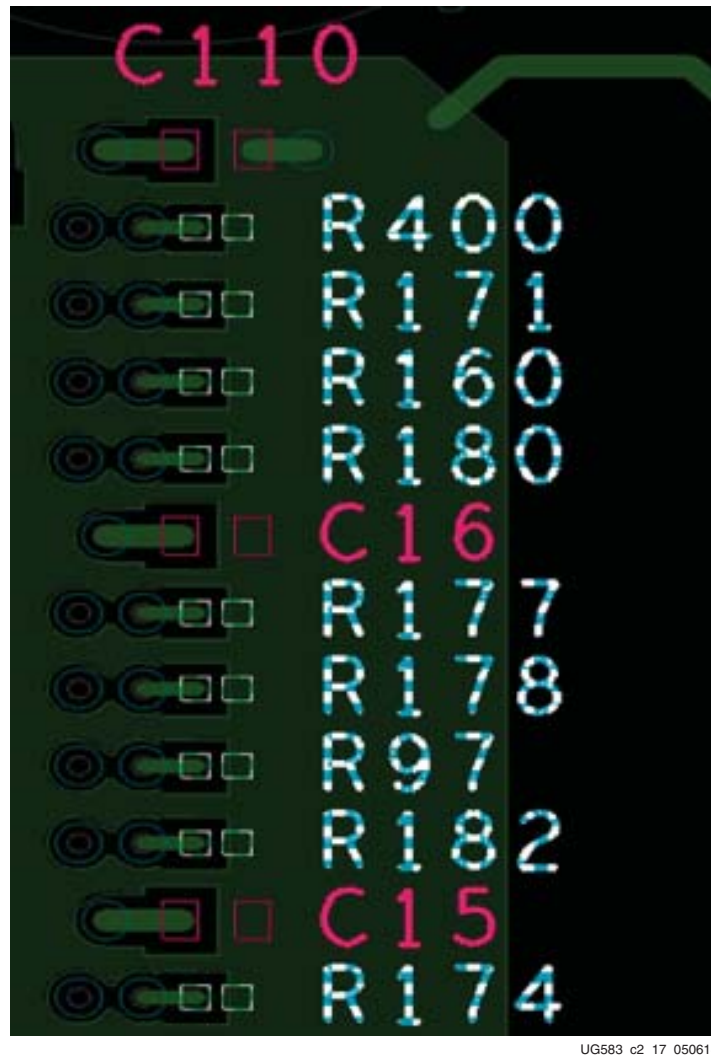

Figure A-6: Example of V_{TT} Termination Placement
12. For ADDR/CMD/CTRL V_{TT} termination, every four termination resistors should be accompanied by one 1.0 μF capacitor, physically interleaving among resistors, as shown in Figure A-6.